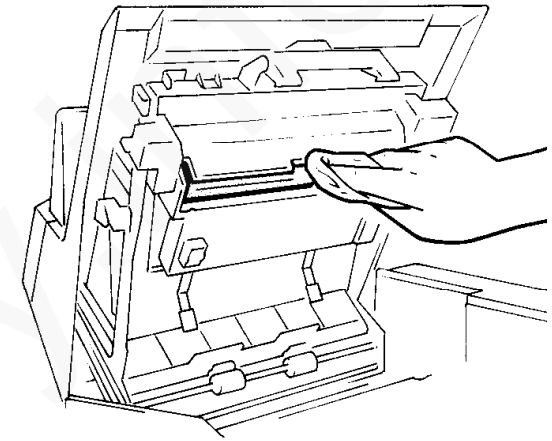

Figure 15. Laser Window
8. Inspect or clean the laser window using a lint free cloth (Figure 15).